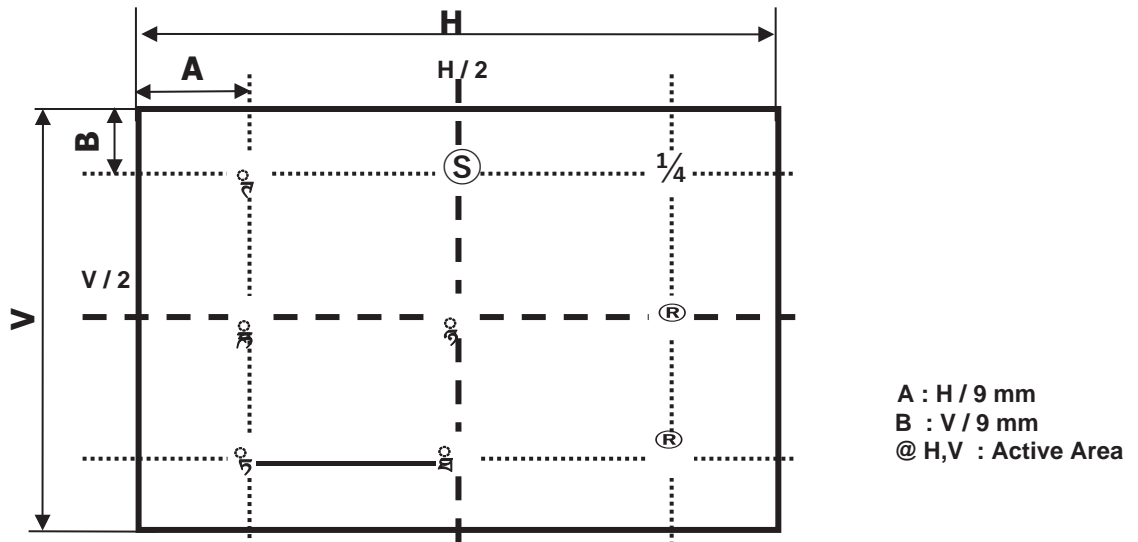

FIG. 2 9 Points for Luminance Measure
2. Surface luminance is determined after the unit has been 'ON' and 1 Hour after lighting the backlight in a dark environment at $25 \pm 2^\circ \text{C}$. Surface luminance is the luminance value at center 1-point across the LCD surface 50cm from the surface with all pixels displaying white. For more information see the FIG. 2
For more information, see the FIG. 2.